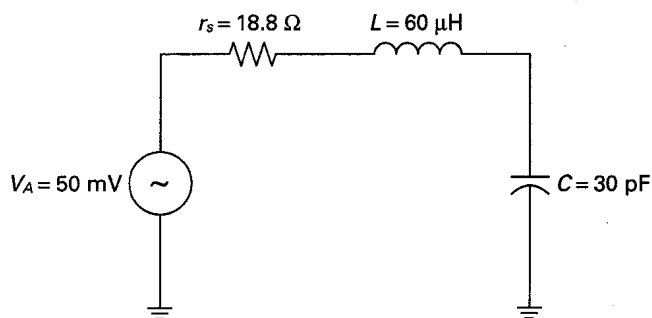

Fig. 1-22
- 1.32** Refer to Fig. 1-22. Calculate the following: (a)  $f_0$ , (b)  $X_L$  and  $X_C$  at  $f_0$ , (c)  $Z_T$  at  $f_0$ , (d)  $I$  at  $f_0$ , (e)  $Q$ , (f)  $V_L$  and  $V_C$  at  $f_0$ , (g) BW, (h)  $f_1$  and  $f_2$  respectively.
- 1.33** In Fig. 1-22, how much additional series resistance must be added to increase the bandwidth to 75 kHz?
- 1.34** In Fig. 1-22, assume that the value of  $L$  is doubled and the value of  $C$  is halved. Calculate: (a)  $f_0$ , (b)  $X_L$  and  $X_C$  at  $f_0$ , (c)  $Q$ , (d)  $V_L$  and  $V_C$  at  $f_0$ , (e) BW.